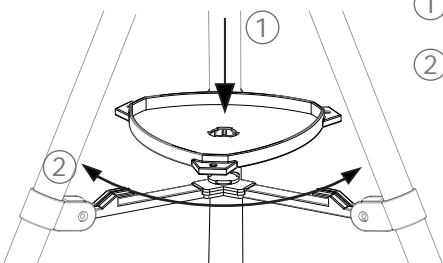

Fig. 1.1a
2. Install the accessory tray on the tripod as shown in Fig. 1.1a.